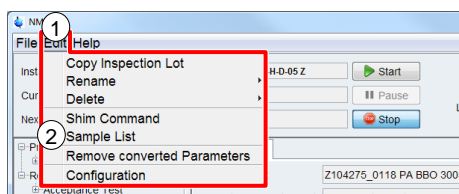

Figure 5-32: Sample List in menu
On the **Edit** menu shown in Figure 5-32 (1), click **Sample List** (2) to open Sample List dialog.